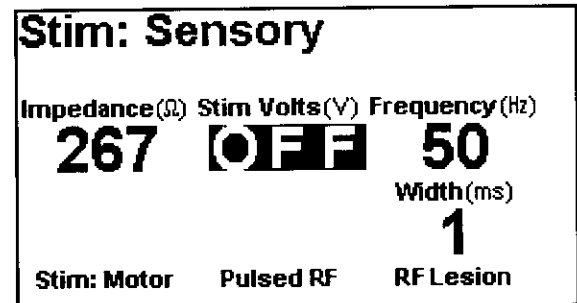
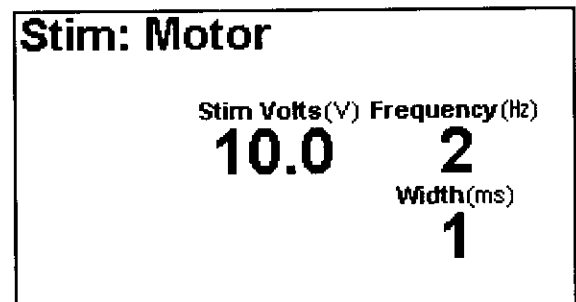

Figure 8: Stimulate Sensory Mode Display
Figure 9: Stimulate Motor Mode Display
Upon attachment of any RF Denervation probe the ELECTROTHERMAL 20S Spine System will start in the Stimulate Sensory mode (Figure 8). Frequency will default to 50 Hz; Width will default to 1 msec; Stim Volts (V) will default to display OFF. Once the Stim: Sensory Mode is activated, the output voltage always starts at 0.0.
The Stimulate Motor Mode (Figure 9) is selected using the soft key under the Stim:Motor option at the bottom left of the display (Figure 8). These options are only available while the voltage is OFF. Frequency will default to 2 Hz; Width will default to 1 msec; Stim Volts (V) will default to display OFF. Once the Stim: Motor Mode is activated, the output voltage always starts at 0.0.